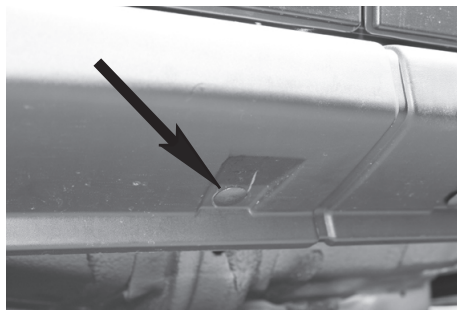

Figure 5
11. Locate clip on trim plate located near drivers door shown in Figure 5 and remove using a screwdriver and pliers.